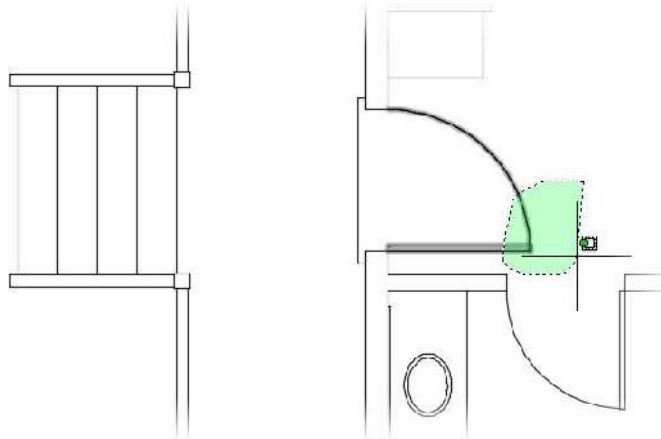

FIGURE 6.23: Using a crossing lasso window to select the doors and swings
2. Without any objects selected, hold down the left mouse button as you draw a circle in a counterclockwise direction, as shown in Figure 6.23.